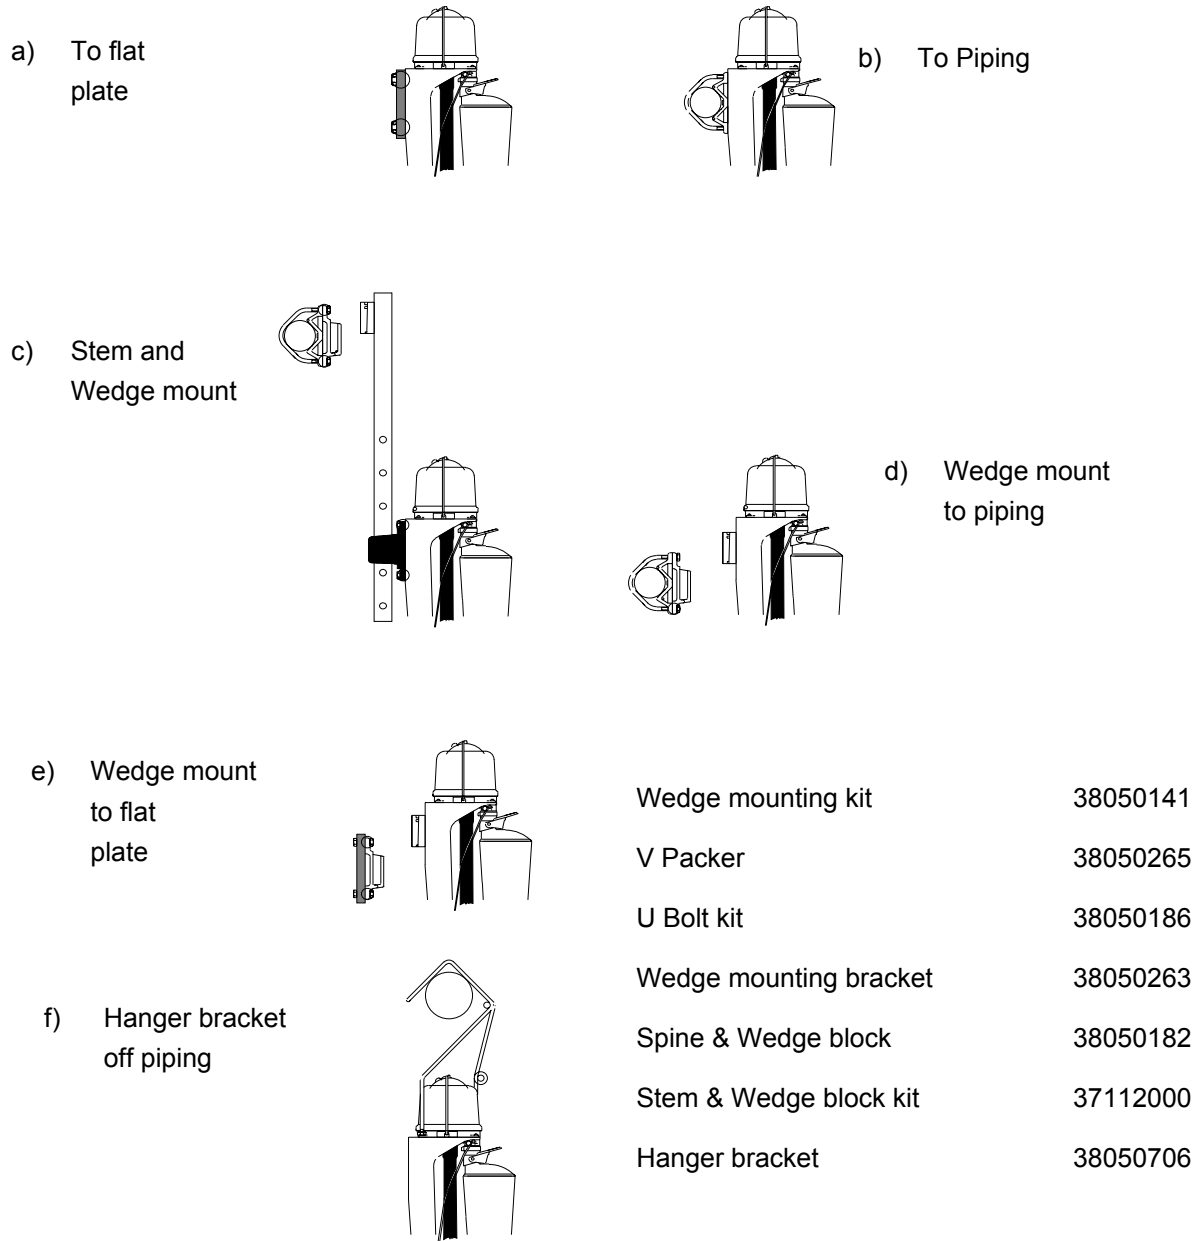

Fig 3.2 Milk Meter Mounting Options
(ref to Fig 3.2)
- Wedge Mounting Set (Fig 3.2 d and e) for flat surfaces or piping.
- Hanger bracket (Fig 3.2 f) off piping.
The Milk Meter should be mounted rigidly enough (refer Fig 3.2) so that cow or other movement does not pull the meter base away from horizontal. A tolerance of $\pm 5^\circ$ is acceptable.